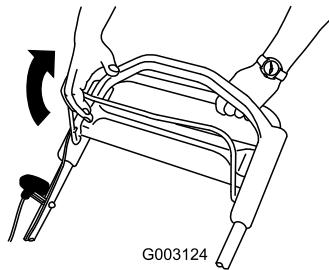

Figure 30
2. Pull the blade control bar to the handle (Figure 30).